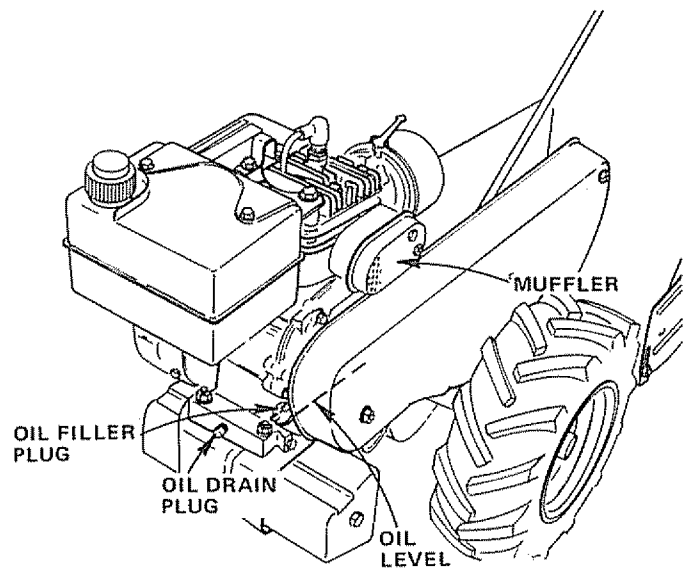

FIGURE 28
Do not operate the Tiller without a Muffler (Fig. 28) or tamper with the exhaust system. Damaged Mufflers or spark arresters could create a fire hazard. Inspect periodically and replace if necessary. If your engine is equipped with a spark arrester screen assembly, remove every 50 hours for cleaning and inspection. Replace if damaged.
Your four cycle engine will normally consume some oil, therefore check engine oil level regularly—approximately every five hours of operation and before each usage. Stop engine and wait several minutes before checking oil level. With engine level the oil must be even with Oil Fill (Fig. 28). Change engine oil after the first two hours of operation and every twenty five hours thereafter.
- a. Remove Oil Drain Plug (Fig. 28)